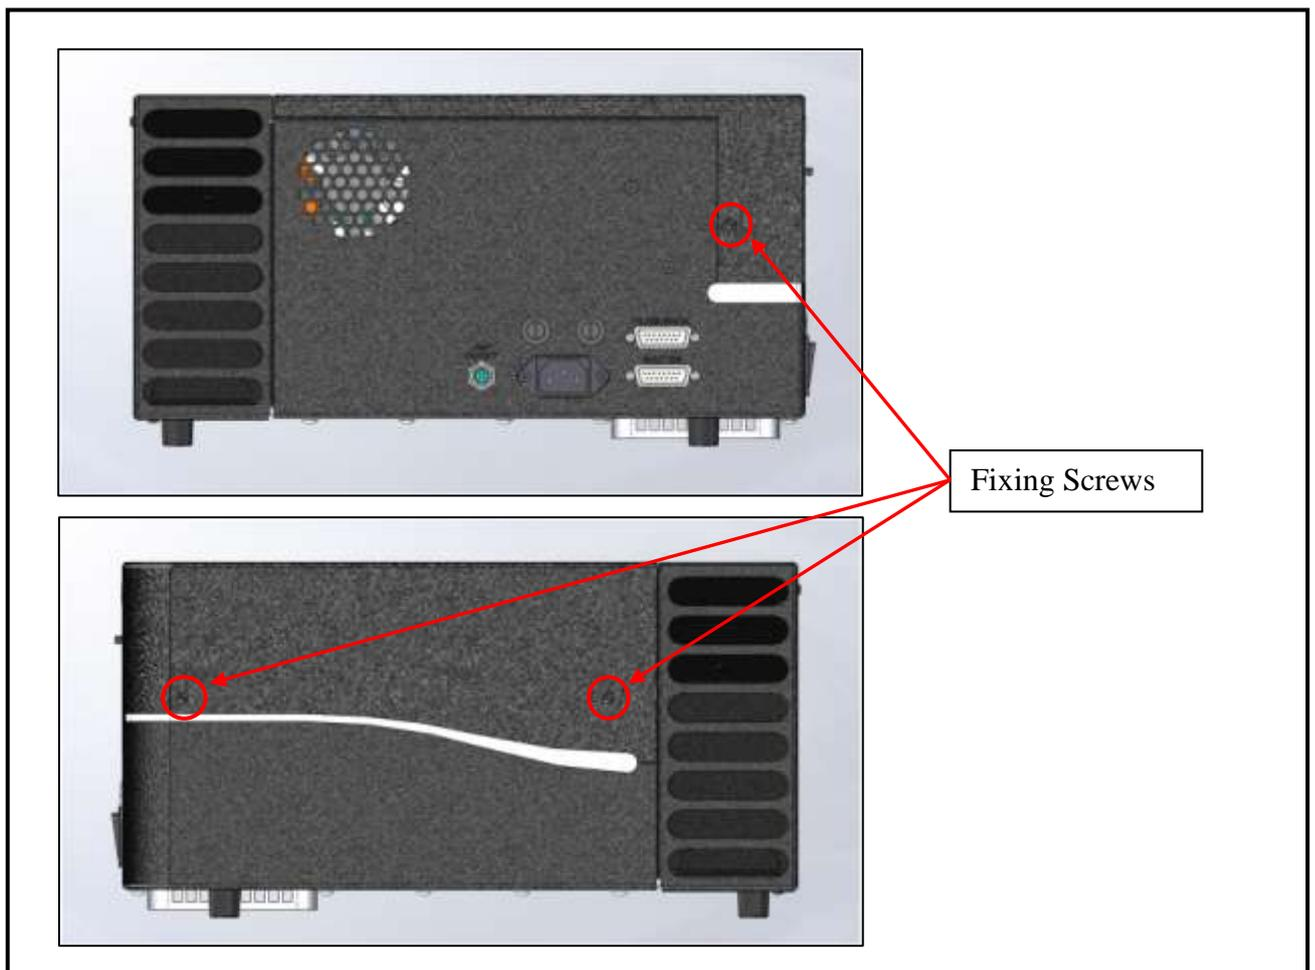

Fig 1 – The Lumen200
4. Unscrew the 3 screws as indicated in Fig. 1